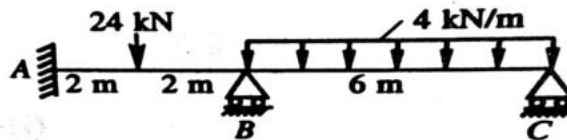

Figure 2.
3. Analyze a continuous beam shown in figure 2, by using Slope deflection method for (i) unyielding supports and (ii) yielding supports which permit a clockwise rotation of $4/EI$ at A and downward settlements of $24/EI$ at B and $12/EI$ at C . The flexural rigidity EI is constant. [14M]